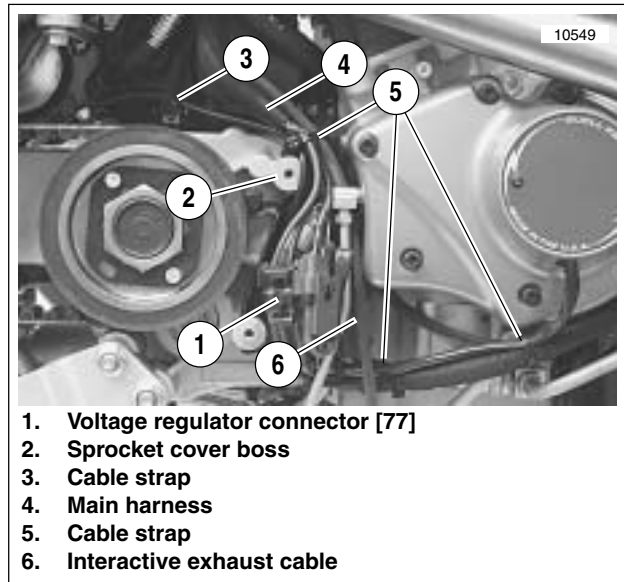

Figure 7-90. Assembled Wiring
See Figure 7-90. In next step, be sure main harness (4) is routed around sprocket cover boss (2).
9. See Figure 7-90. Connect voltage regulator connector [77] (1). Be sure connector latch faces inward and voltage regulator wires are positioned behind other wires in harness at sprocket cover boss (2).
10. Install cable strap (3) securing vehicle speed sensor wiring to starter connector [128] wiring.
11. Install cable strap (5) securing main harness wiring.
12. Install cable strap (6) securing stator, cam position sensor and oil pressure switch wiring.
13. Add cable strap (7) to secure cam position sensor and voltage regulator wiring.